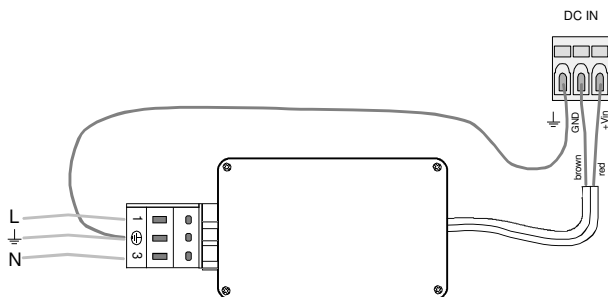

Fig. 5
- Set DIP switch 1 to **ON** (12:00 position, Fig. 5)